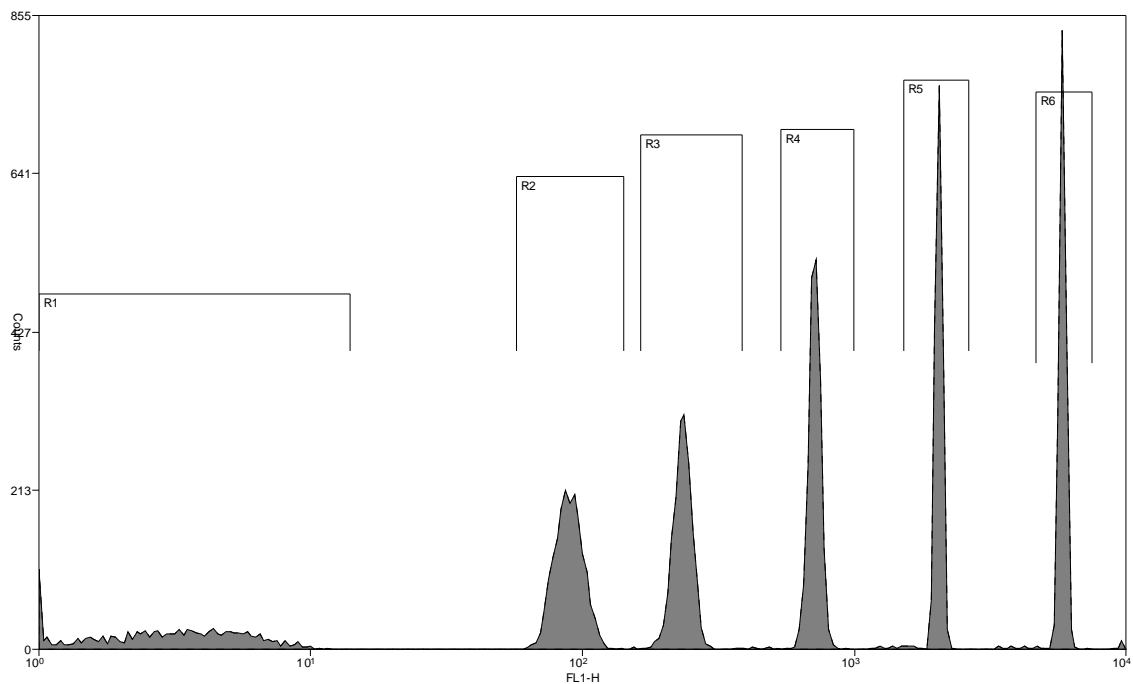

Figure 2. Histogram of FluoroSpheres Bead populations.
9. Six different fluorescence intensity peaks should be visible in the fluorescence channel of interest (See Figure 2).
Individual markers or regions are used to define each of the 6 bead populations of the Calibration Beads (see Figure 2). The regions are used to determine the MFI of each bead population.